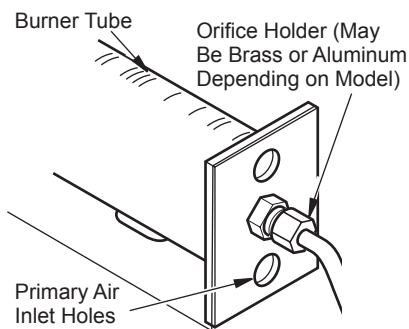

Figure 26 - Orifice Holder On Outlet Burner Tube
2. Inspect burner, pilot and primary air inlet holes on orifice holder for dust and dirt (see Figure 26).